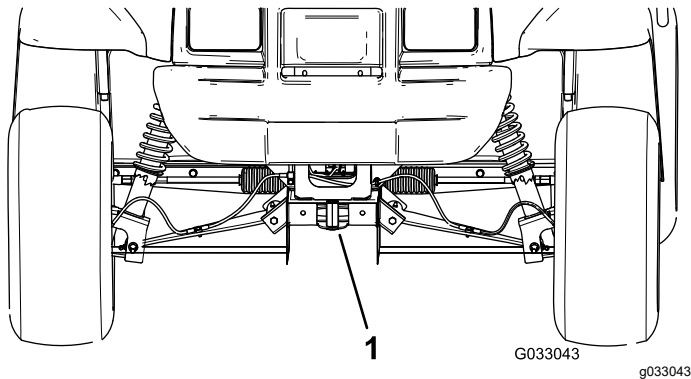
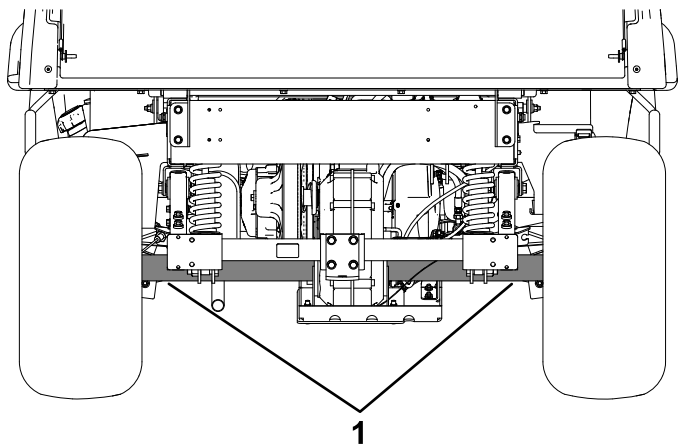

Figure 16
Figure 17
Refer to Figure 16 and Figure 17 for the tie-down locations on the machine.
2. Affix a tow line to the tongue at the front of the machine frame (Figure 16).